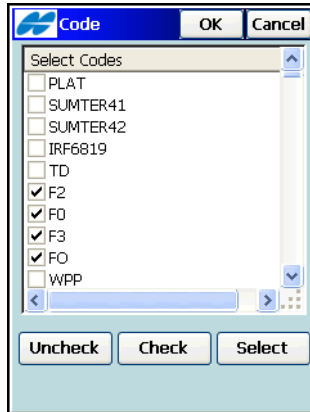

Figure 4-6. Select Code
- **Select** – opens the *Code* screen (Figure 4-6 on page 4-6).
The *Code* screen (Figure 4-6) contains a list of available codes. All codes that have been check marked are imported.